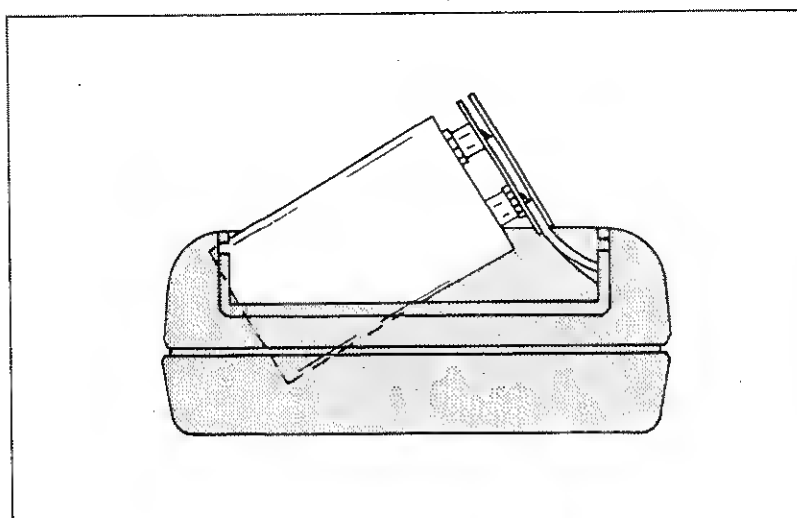

Figure 2-2. Battery Removal
4. Tilt the battery out as shown in Figure 2-2.